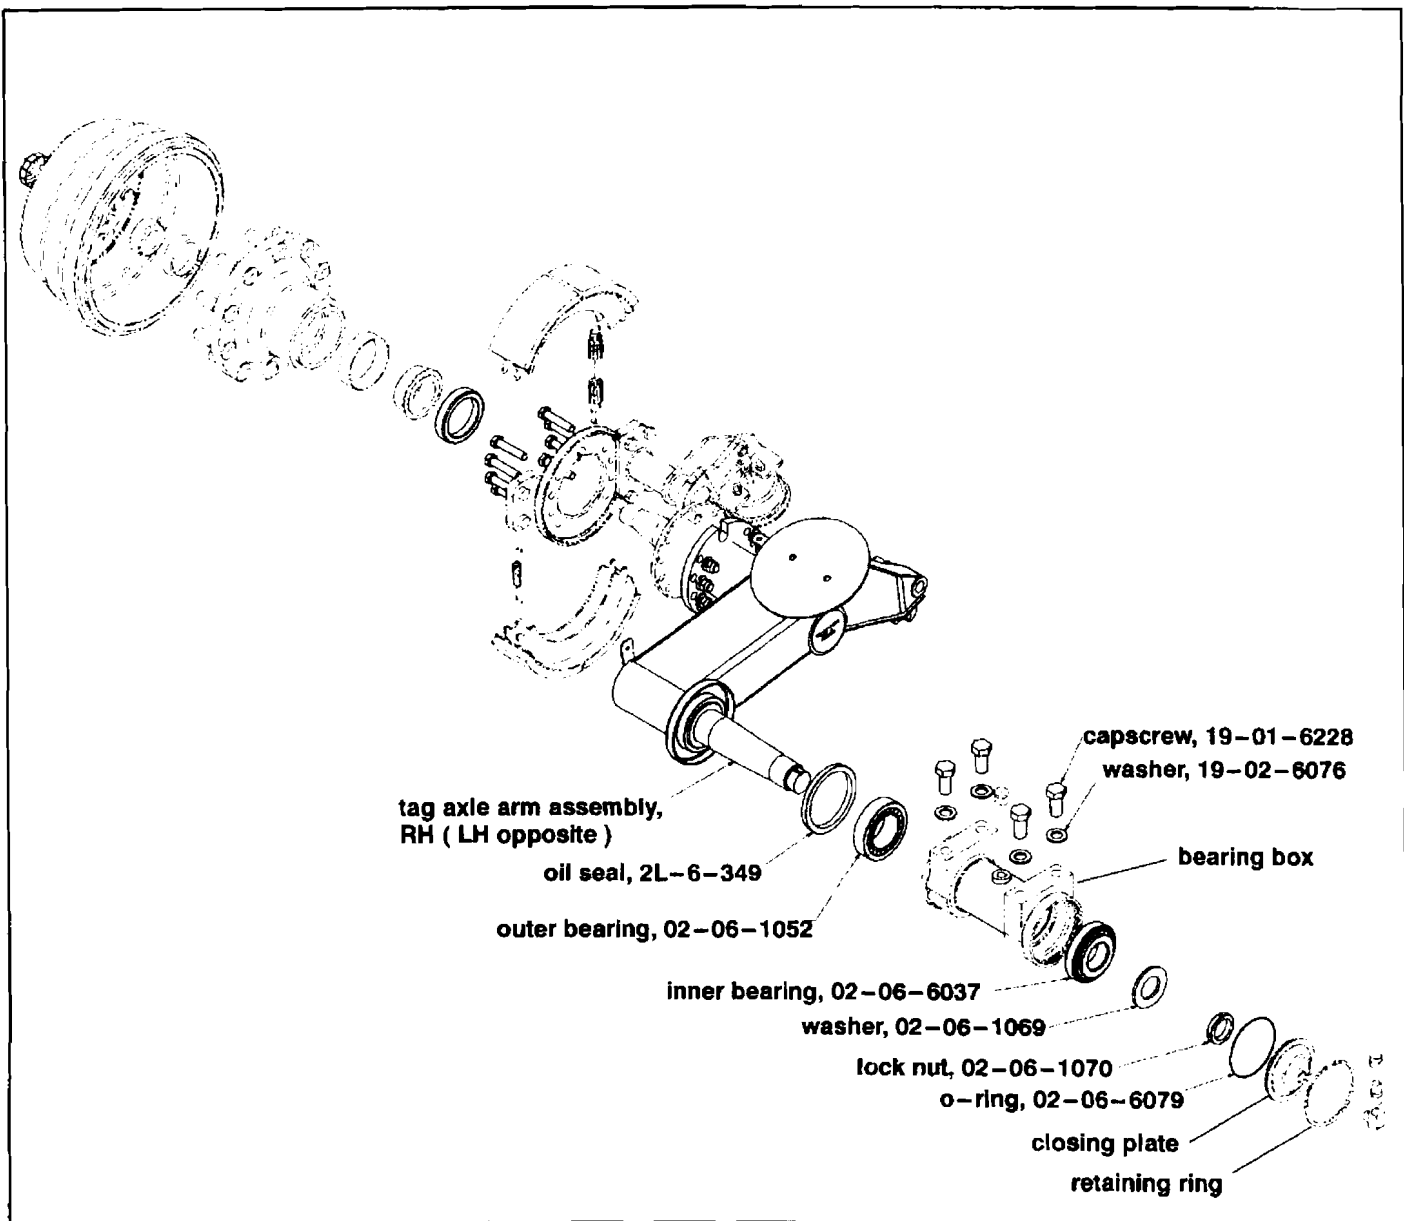

Figure 7. Tag axle arm assembly, RH.
35. After lubricating the inner lips of the seal, install bearing box assembly onto the new tag arm assy. Take care to prevent side loading the seal as the box is being assembled to prevent damage to the seal. Install the inner race of the inner bearing, p/n 02-06-6037, washer, p/n 02-06-1069 and lock nut (p/n 02-06-1070) (Figure 7). Torque the lock nut to 95-105 lb-ft while rotating the bearing box. Back off, and re-torque to 19-22 lb-ft, while again rotating the bearing box. Torque lock nut set screw to 5-7 ft-lbs.